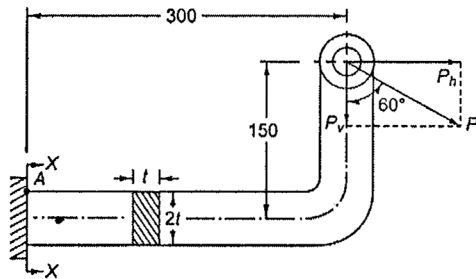

Fig. Q2a
2. (a) A wall bracket with a rectangular cross-section is shown in Fig. Q2a. The depth of the cross-section is twice of the width. The force  $P$  acting on the bracket at  $60^\circ$  to the vertical is 5 kN. The material of the bracket is grey cast iron FG 200. If the width of the bracket is selected to be 35 mm, what is the factor of safety of the system. You may assume maximum principal stress theory of failure. [10]